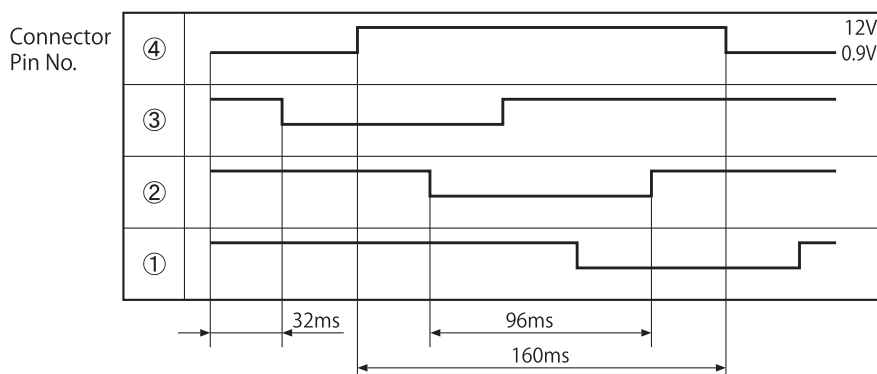

Fig. 5-2
- The relationship between the switching direction of the current phase and the open/close direction of the valves is shown in the following table. When current is applied, approximately 0.9V passes through pins ①-④ of CN1011, CN1012, CN1013, CN1014 and CN1015; when no current is applied, it is approximately 12V. When the power is reset, the expansion valve is initialized for approximately 35 seconds. During initialization, use a tester to measure pins ①-④ on CN1011, CN1012, CN1013, CN1014 and CN1015. If there is a pin that does not change at approximately 0.9V or 12V, there is an abnormality in that expansion valve or the Main microcomputer.
- The logic waveform for when an expansion valve operates is shown in Fig. 5-2.